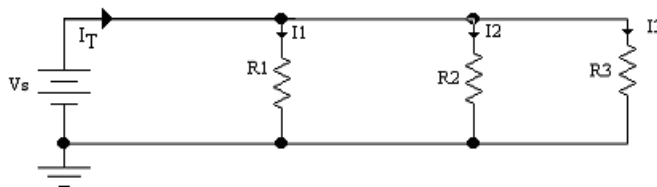

Figure 1.2: Parallel Circuit for calculations
3. Calculate  $I_T$ ,  $I_1$ ,  $I_2$ ,  $I_3$ , and  $R_T$  in Figure 1.2, assuming  $V_S = 12 \text{ V}$ ,  $R_1 = 1 \text{ k}\Omega$ ,  $R_2 = 2.7 \text{ k}\Omega$ ,  $R_3 = 4.7 \text{ k}\Omega$ . Redraw the circuit showing assigned voltage polarities and assigned current directions. Show all computer simulation for Figure 1.2. Prepare a table that will contain calculated and measured values.
4. Show that all the currents found in the Figure 1.2 satisfy KCL?
3. Construct the circuit shown in Figure 1.2. Do not connect the source. Measure  $R_T$  with the DMM.
4. Connect the source as shown in Figure 1.2. Measure and tabulate  $I_1$ ,  $I_2$ ,  $I_3$ , and  $I_T$ .